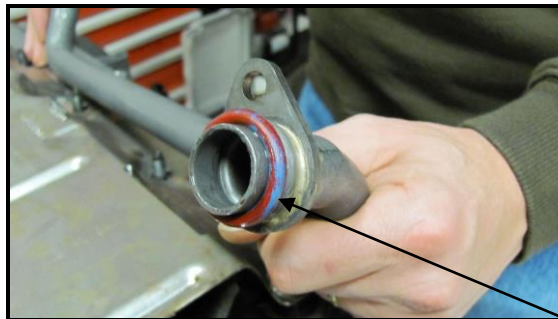

Figure 3
2. Install the supplied o-ring onto the oil pump pickup screen assembly and lubricate with clean engine oil (Figure 3).